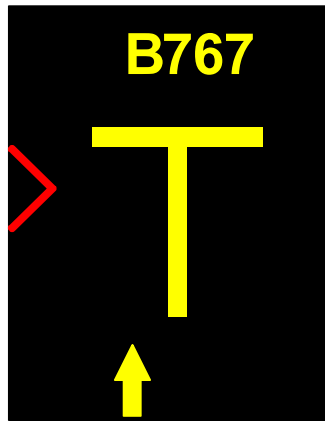
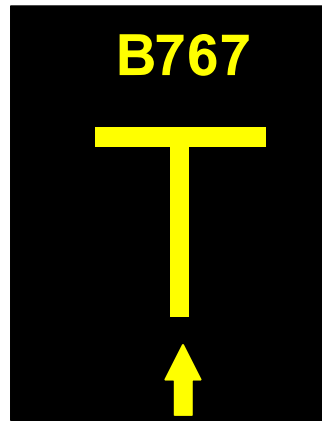
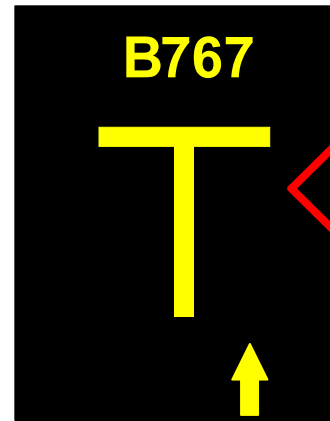

Fig.4 Aircraft
Fig.5 Aircraft
Fig.6 Aircraft
3.3.1 Azimuth guidance is displayed on the LED screen when the aircraft is within 80 metres of the correct parking position. An arrow and a chevron indicate the relative position of the aircraft to the centreline 'T' symbol (Fig 4, Fig 5 and Fig 6).